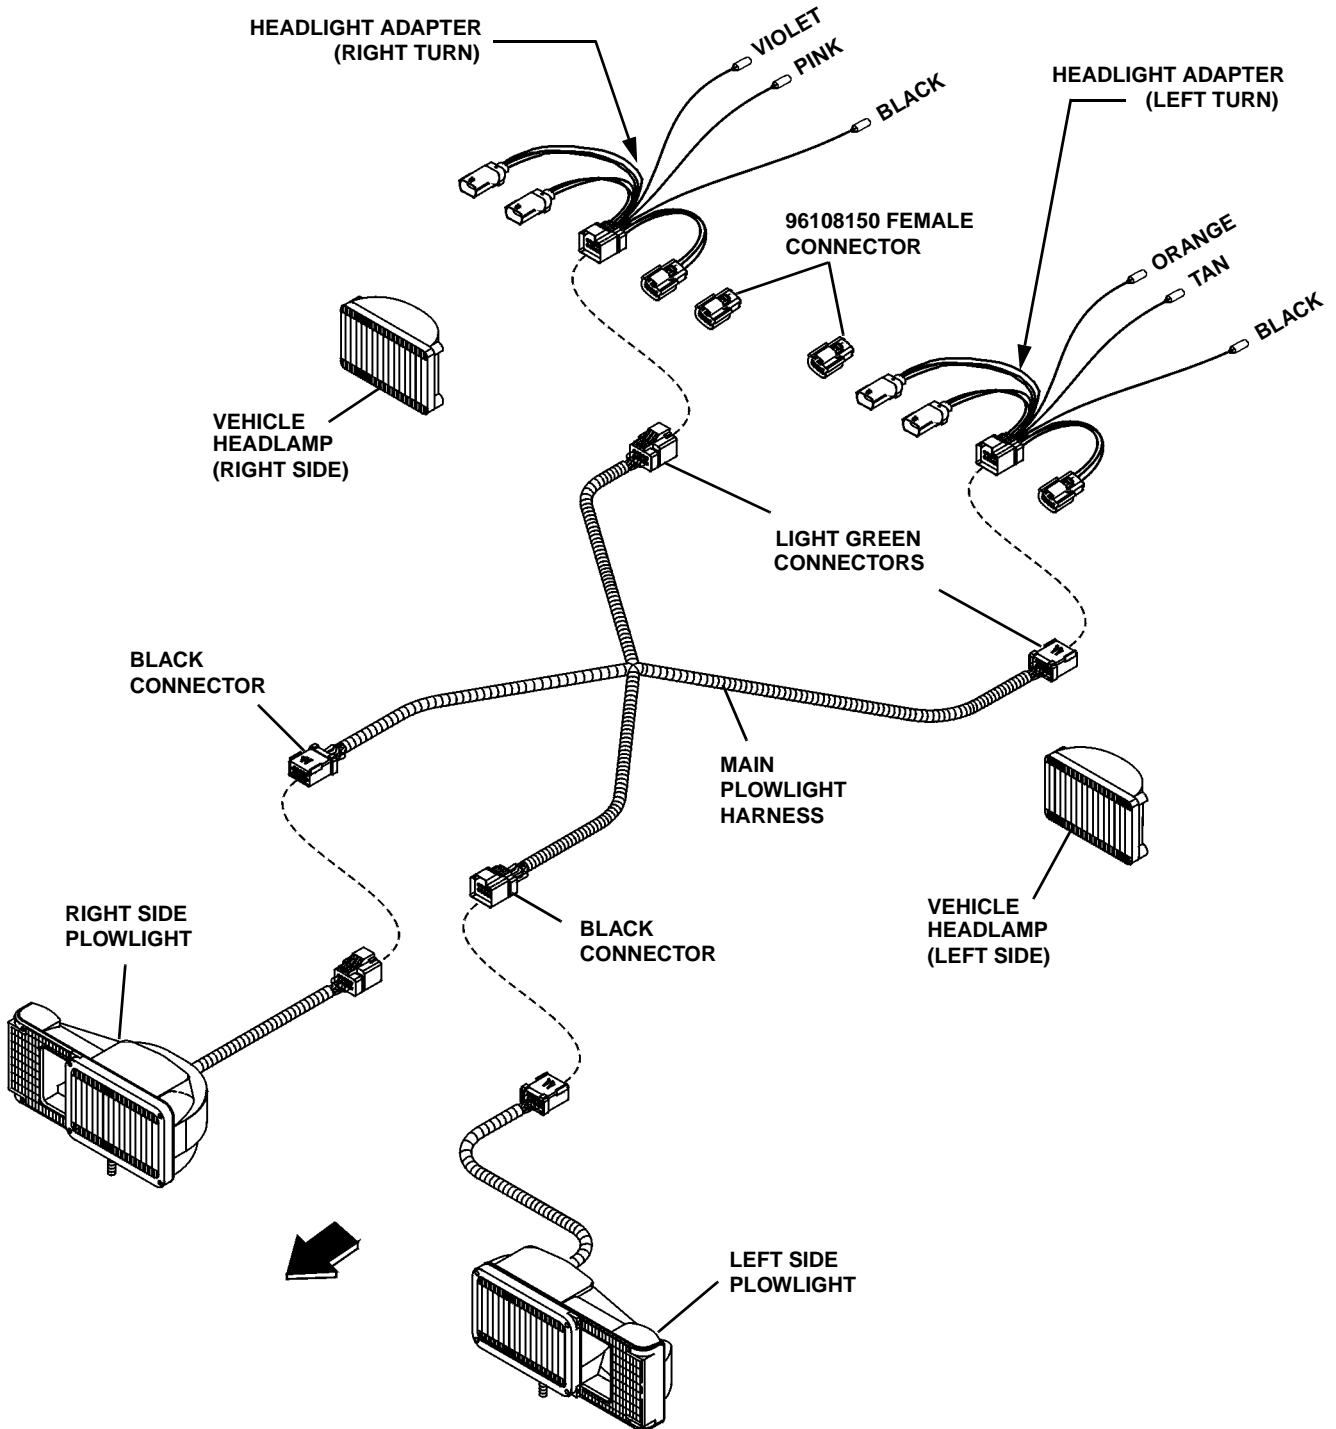

Figure 1
- Now take the wires from the vehicle that were removed from the turn signal connector and plug them into the connector (96108150) provided and shown in Figure 1 as follows: